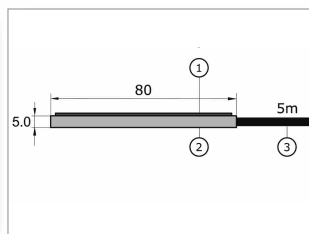

Figure 2
- ◀ Figure 2 (Right): HFP01SC dimensions in mm, heater (1) heat flux sensor body (2), cable (3)